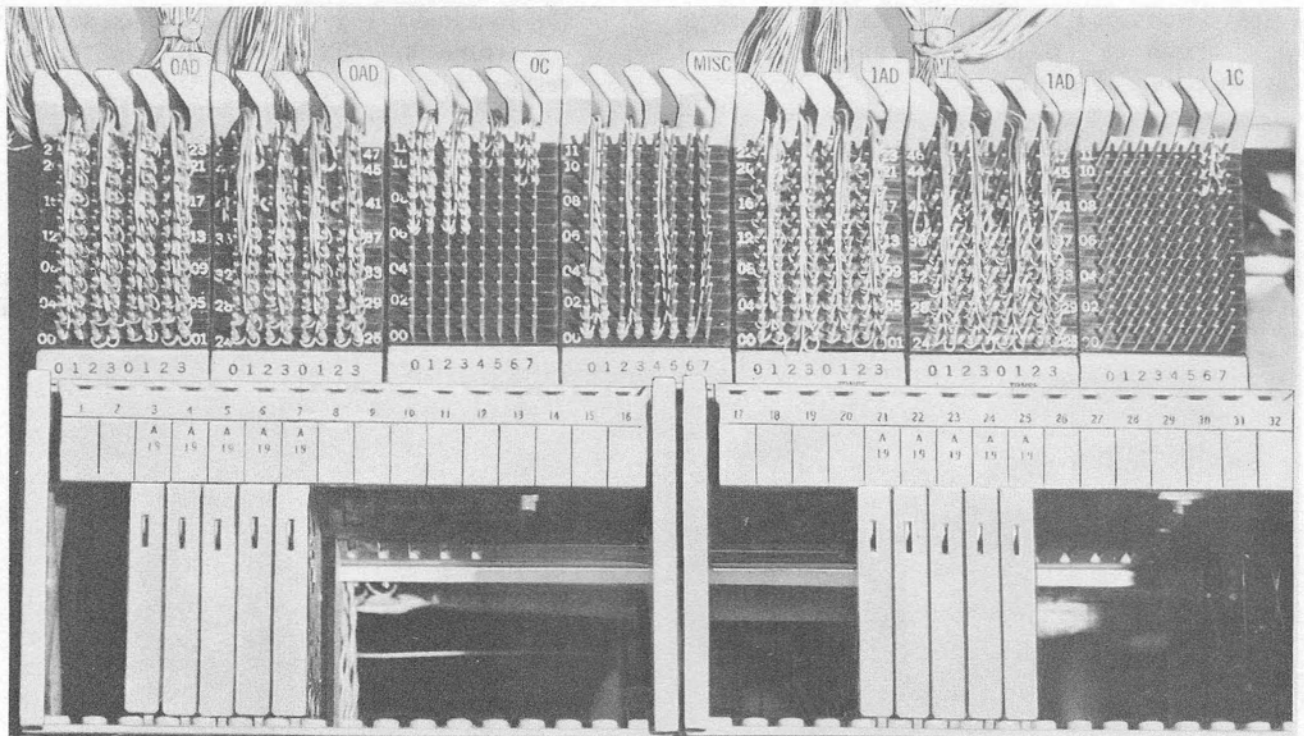

Fig. 5—Equipment Side View of 2598-Type Transformers Installed
**Note:** Use slack in bus to reconnect leads on the equipment side of transformers. Splice leads if slack is not available. Splicing information is found in Section 632-033-102 and Section 632-400-011 (Fig. 5).